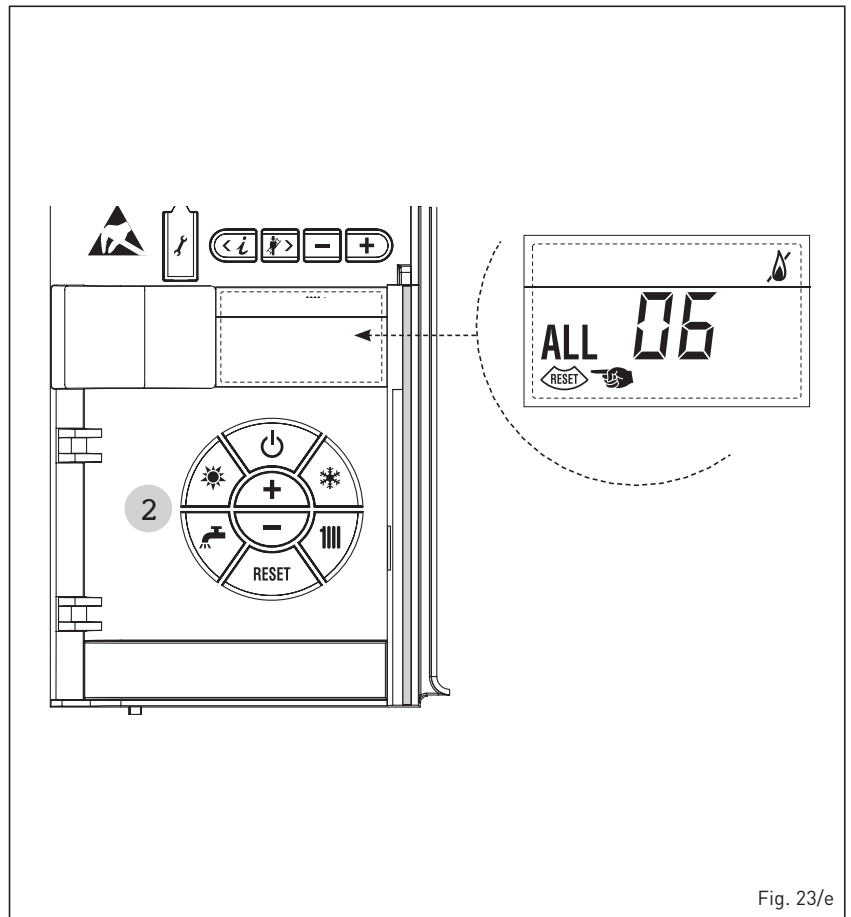

Fig. 23/e
**- SAFETY/LIMIT THERMOSTAT ERROR ALARM 07 (fig. 23/f)**